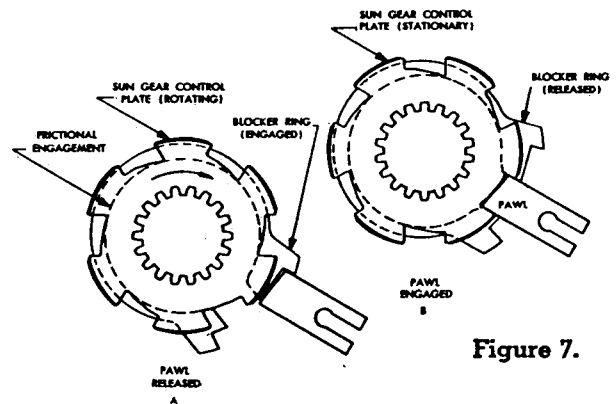

Figure 7.
movement (Fig. 7-a). When the car reaches a predetermined speed (the "cut-in" speed, which varies between 20 and 32 mph, according to car make and model) the governor contacts close, acting through the overdrive electrical circuit to energize the solenoid. The latter sets up a spring pressure against the pawl, tending to push it into engagement. This movement is prevented by the blocker. However, the driver, either unconsciously, or consciously, and according to his own choice, may momentarily close the throttle, whereupon the roller clutch releases, and the engine slows down. At the same time, the sun gear slows down, more rapidly, so that the sun gear passes through the stand-still condition when the engine speed has fallen 30%, and then reverses its motion. Upon the instant of reversal, the blocker ring, moved by its frictional drive from the control plate hub, also rotates slightly in this direction and releases the pawl which snaps into the first notch of the backwardly-rotating control plate (Fig. 7-b). The extreme rapidity of this action insures that the control plate cannot rotate backward more than  $1/3$  turn at the most; usually, it will be less. This engagement, at nearly perfect synchronism, accounts for the smooth action of this control. Once engaged, under the conditions of normal driving, the overdrive is in action until the car speed falls to a value 3 or 4 mph lower than the cut-in speed, when the governor contacts open, releasing the solenoid, which withdraws the pawl (if throttle is closed), whereupon the condition of free-wheeling direct drive is resumed.
a. Occasionally, either in assembly at the factory, or in service operations in the field, the internal parts of the overdrive unit may have been rotated with the solenoid removed, and the pawl withdrawn from its normal location. This may cause the blocker ring to rotate, so that its two lugs are not located with respect to the pawl as shown in **Figs. 7 and 21**. In other words, the solid portion of the blocker ring may be in alignment with the pawl, which will prevent full engagement of the pawl with the sun gear control plate.
c. Rather than disassemble the entire overdrive unit, this condition may be corrected externally. With transmission in neutral, and the dash control pulled out, move car forward one full turn of the propeller shaft. Then, loosen the two solenoid capscrews as far as possible without removing, and pull solenoid out as far as it will go, and hold it there while the propeller shaft is turned forward about  $\frac{1}{8}$  turn. Then push solenoid in, and tighten capscrews. The reasons for this procedure are readily understood from a study of Fig. 7.